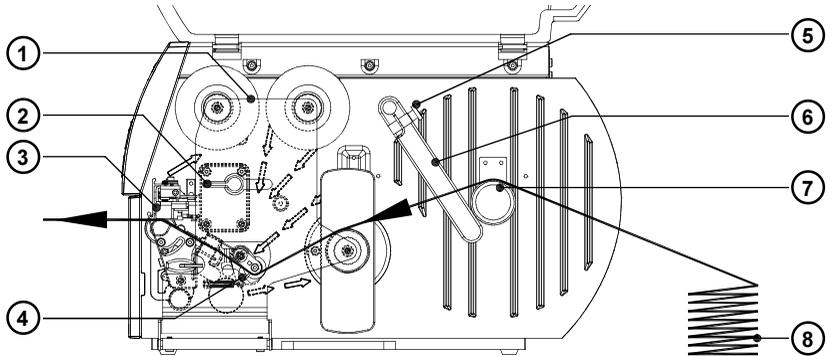

Fig. 7h Loading Fanfold Labels
2. Loosen the knurled screw (5) and slide the media guide (6) to its outermost position. Rotate the media guide (6) downwards past the media unwinder (7).
4. Place the stack of media (8) behind the printer. Make sure the labels on the media strip are facing up.
5. To raise the printhead assembly (3), rotate the lever (2) clockwise until it stops.
6. Swing down the plate (1).
7. Slide the media guide ring (4) outward, allowing enough clearance for the media's width when loaded.
8. Slide the media strip through the printer as shown in figure 7h.
10. Slide the media guide (6) inward until it lightly touches the media strip. Rotate the media guide upwards against the media unwinder (7) and tighten the knurled screw (5).
11. Slide the media guide ring (4) inward until it lightly touches the media strip.
12. Swing back the plate (1) to the print mechanism.
13. Lower the printhead by rotating the lever (2) counter-clockwise until it stops.